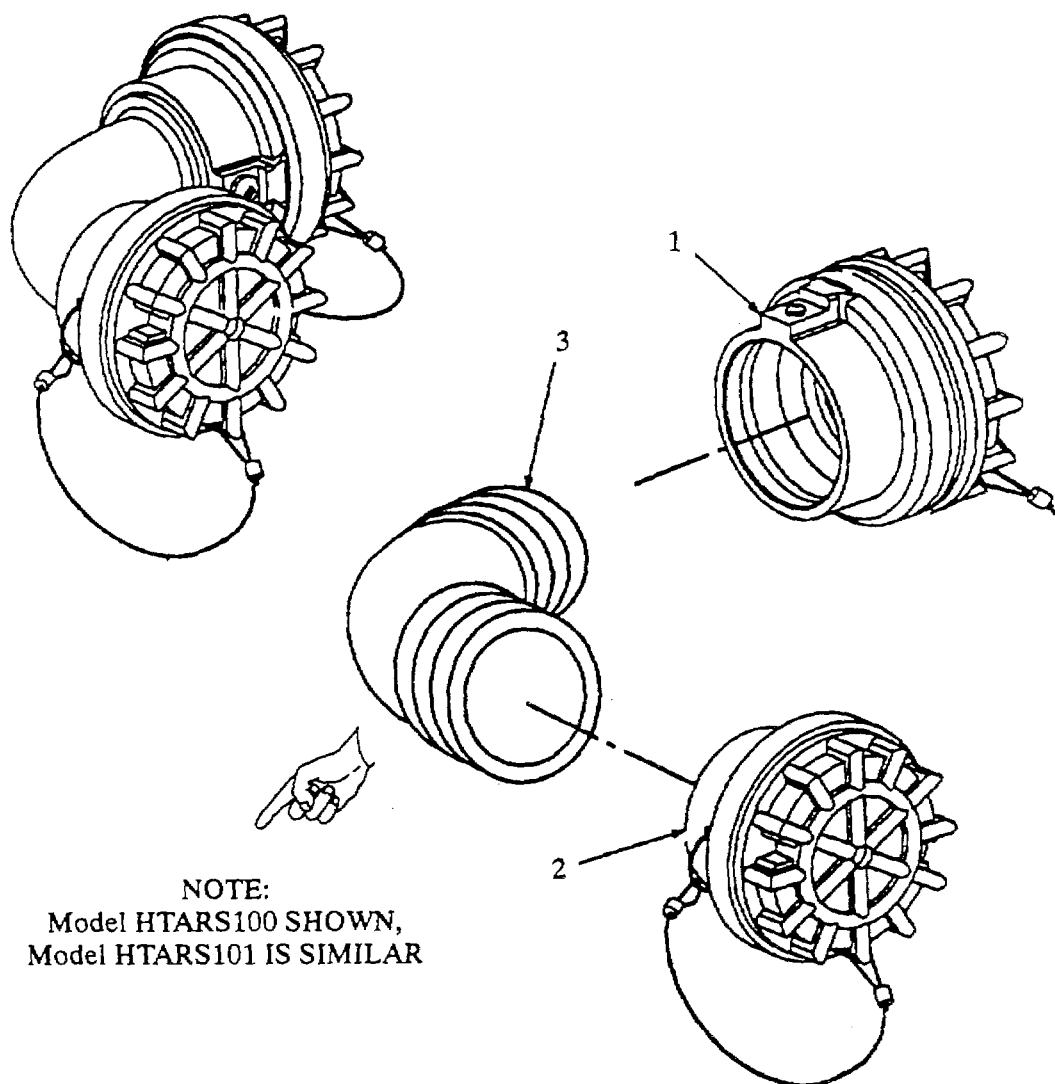

Figure 4-14. Elbow Assembly Repair.
- a. Disassembly. Refer to figure 4-14.
- (1) (Model HTARS100) Remove non-valved dry break couplings (1 and 2) from elbow body (3) (para 4-14).
- (2) (Model HTARS101) Remove valved dry break couplings (1 and 2) from elbow body (3) (para
- c. Inspection. Refer to figure 4-14.
- (1) Inspect non-valved dry break coupling assemblies (1 and 2) for cracks, corrosion and damaged coupling bodies. Check sealing surfaces for scratches.
- (2) Inspect elbow body (3) for cracks, splits, pitting, and corrosion.
- d. Repair. Refer to figure 4-14.
- (1) Replace damaged or defective elbow body (3).
- (2) Repair non-valved dry break coupling assemblies (1 and 2) in accordance with para 4-14.
e. Assembly. Refer to figure 4-14.
- (1) (Model HTARS100) Install non-valved dry break coupling (1 and 2) on elbow body (3) (para 4-14).
- (2) (Model HTARS101) Install valved dry break couplings (1 and 2) on elbow body (3) (para 4-18).
- (3) Install elbow assembly in fuel system (para 3-4b).
- (4) Start up fuel system (para 2-12g) and check elbow assembly for leaks.